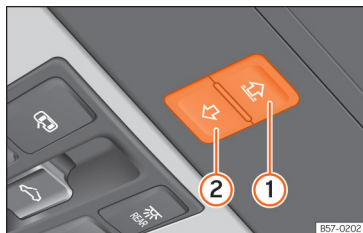

Fig. 68 On the interior roof lining: function button to operate the sun blind.
- If it still cannot be closed, within 5 seconds press the button ››› Fig. 68 ② until the blind closes fully. **The blind closes without the intervention of the anti-trap function!**